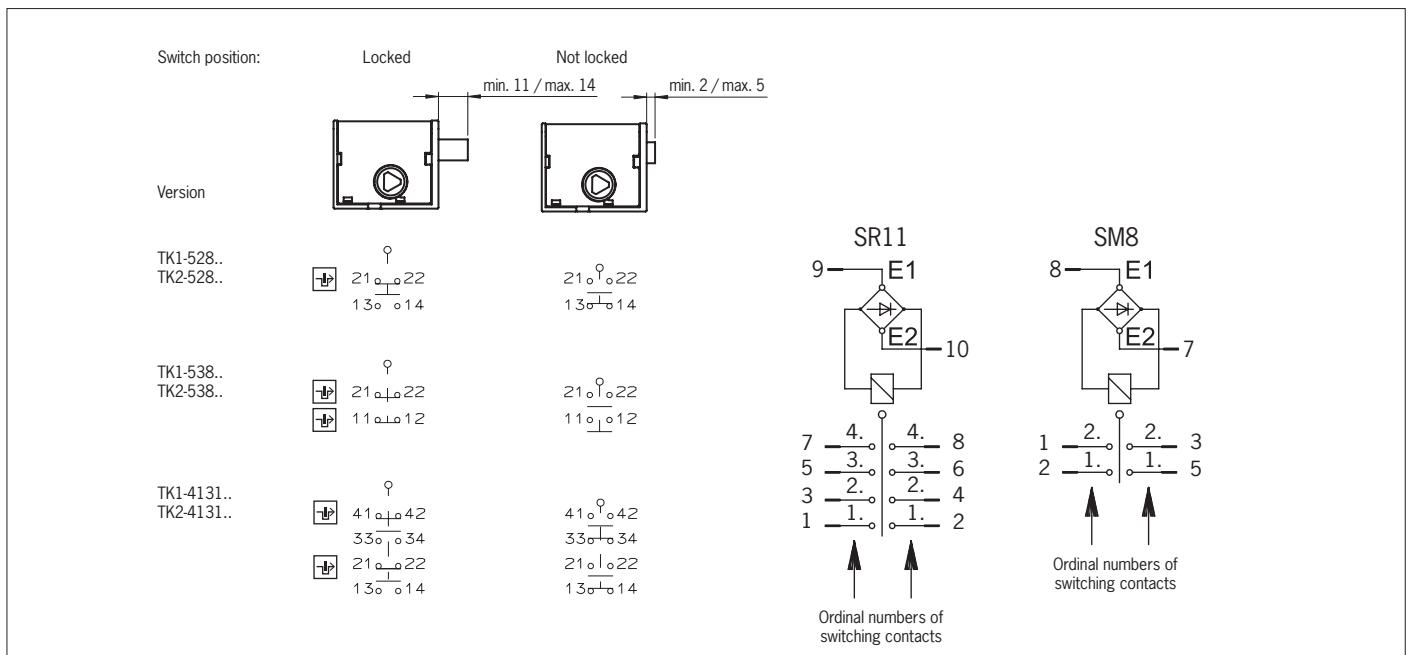

Fig. 2: Switching elements and switching functions
3. Connect and tighten the terminals with 0.5 Nm (for terminal assignment, see Fig. 2).